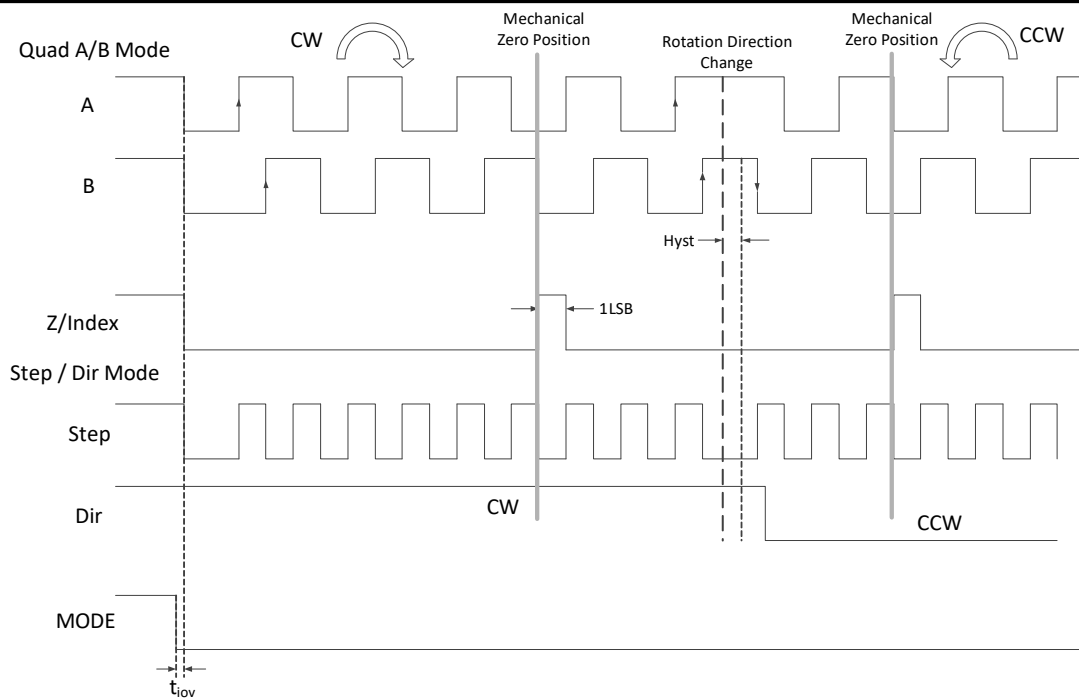

Figure 3: Typical Output Waveform for A/B/Z and Step/Dir/Index mode
Figure 3, when the magnet rotates clock-wise (CW), output A leads output B by 1/4 cycle (or 1 LSB); When the magnet rotates counter-clock-wise (CCW), output B leads output A by 1/4 cycle. Output Z indicates the zero position of the magnet and has a pulse width of 1 LSB. Its position can be programmed to align with the mechanical zero position. The hysteresis size is set to 0.5 LSB.